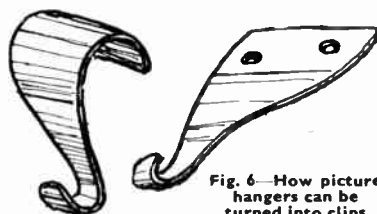
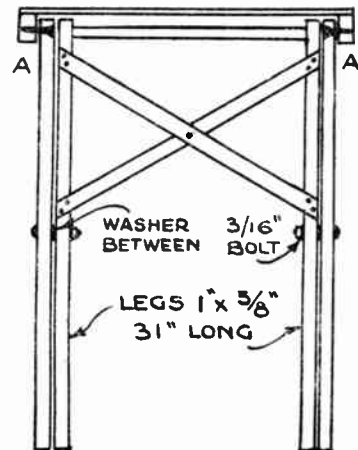

Fig. 6—How picture hangers can be turned into clips
Fig. 3—Showing how the legs fold
Figs. 3, 4 and 5 show the construction of the crossed legs. They are each 31 ins. long, of 1 in. by $\frac{5}{8}$ in. hardwood. The inner pair of legs are joined at the top with a $\frac{1}{2}$ in. dowel rod which slips into a metal clip inside the top framework when the table is set up in use. The spring clip can be made from suitable picture hangers modified as at Fig. 6.
The outer pair of legs are pivoted at the top on 1½ ins. countersunk screws at (A), Figs 3. and 4. A thin metal washer should be placed between the legs and framework to give clearance. 16 ins. from the lower ends, the legs are
If the reader is a home owner and is thinking, anyway, of relaying a concrete path, opportunity might be taken of sinking a cycle slot at ground level (Fig. 6).